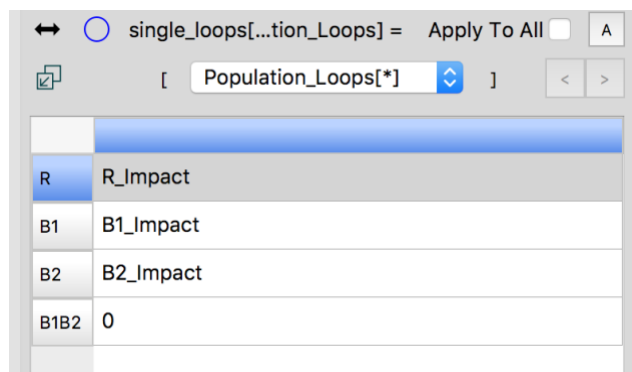

Figure 24: Formulae in "single loops".
- Set the formula in *single loops* so that the correct impact is placed next to the correct array element label, with the combination B1B2, having zero, see Figure 24: